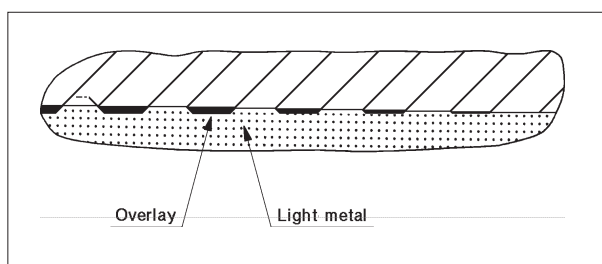

Fig. 10.
**Condition:** The slots are locally totally levelled as shown in fig. 10.